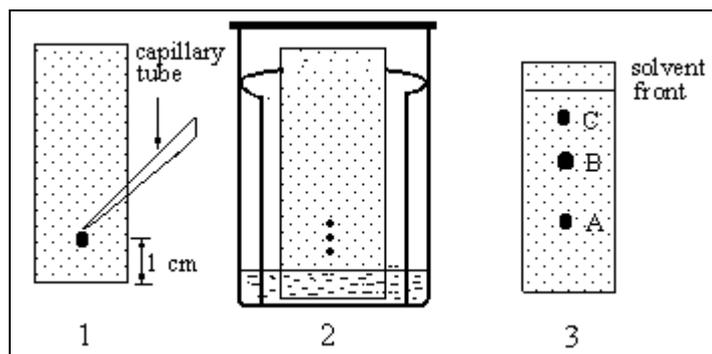

Figure 21. Steps in the TLC technique
**Spotting.** The mixture to be analyzed is dissolved in a suitable solvent (1% solution). With a drawn capillary tube, a small amount of this solution is spotted on the *TLC* plate about 1 cm from the bottom (Figure 21). The spots should have a diameter not larger than 1-2 mm, since larger spots result in "tailing" and overlapping of close spots. Once the solvent evaporates from the spots, the plate is ready for developing.